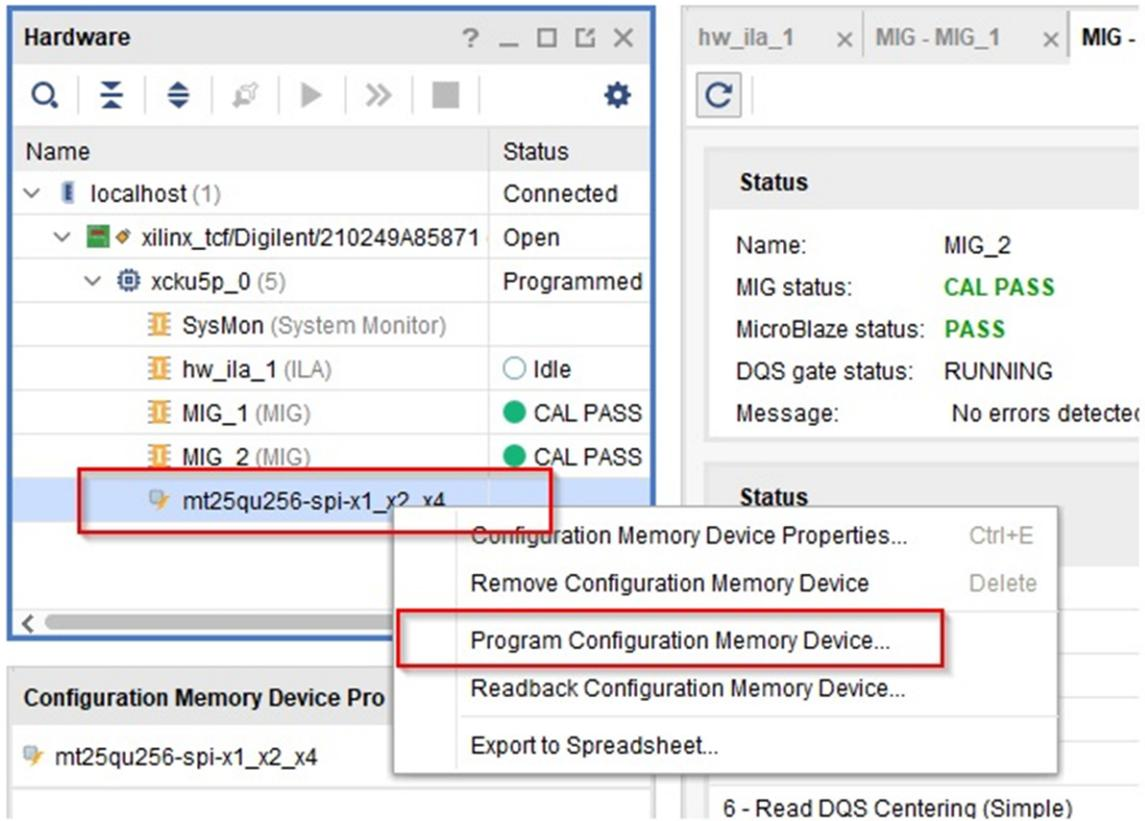

Figure 3-2. Programming Memory Device
- Right click on device “mt25qu256-spi-x1_x2_x4”, and click on “Program Configuration Memory Device” (see Figure 3-2).